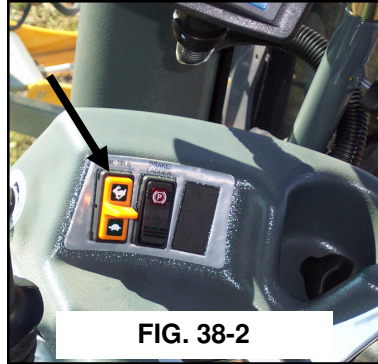

FIG. 38-2
2. Increase the engine one bump to gain RPM of 1800 with the throttle switch (fig. 38-2). More RPM will be gained as you move the hydrostatic lever handle forward.